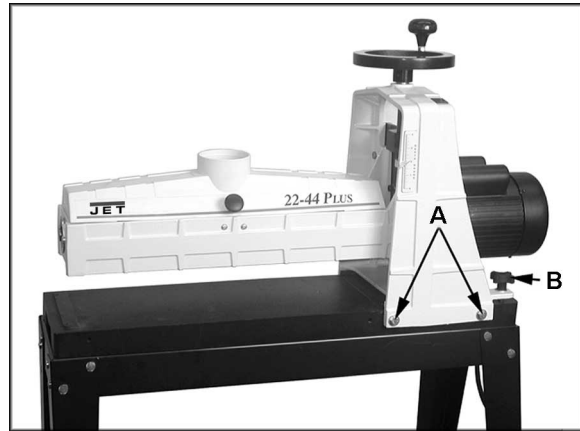
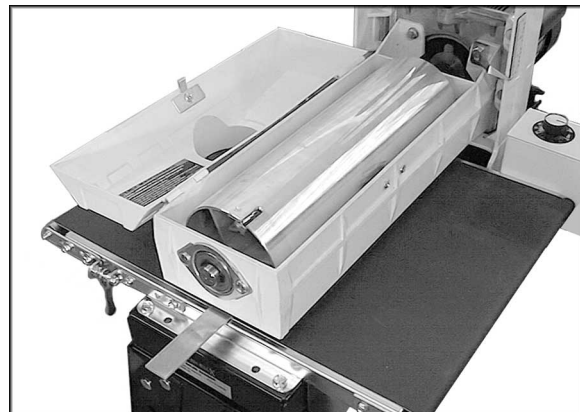

Figure 22
Figure 23
1. Loosen the four 3/8" hex cap screws – two front, two rear (A, Figure 22). This allows the entire drum carriage and shroud to be pivoted on two screws – one screw in front, one in back.
2. Lay the thickness gauge under the drum lengthwise. See Figure 23. Rotate the fine tune adjustment knob (B, Figure 22) until the drum contacts the gauge equally along its entire surface. Rotate the knob clockwise to raise the outboard end of the drum, counterclockwise to lower the outboard end of the drum. Use the height adjustment handwheel to raise or lower the entire drum.
3. When drum is parallel to conveyor, tighten the four screws (A, Figure 22).
3. If a ridge is visible where the drum overlaps, loosen the four screws (A, Figure 22) and raise the outboard end of the drum by turning the fine tune adjustment knob (B, Figure 22) slightly clockwise.
**Important:** Only turn fine tune adjustment knob when all four screws (A, Figure 22) are loose.
5. Tighten the four screws (A, Figure 23).
**NOTE:** Keep track of how many revolutions of the fine tune knob are needed to change drum alignment for wider (over 22") sanding. When sanding narrow stock (less than 22") loosen the four screws (Figure 22) and turn fine tune adjustment knob counterclockwise the same amount as the initial wide sanding so that drum is again parallel.